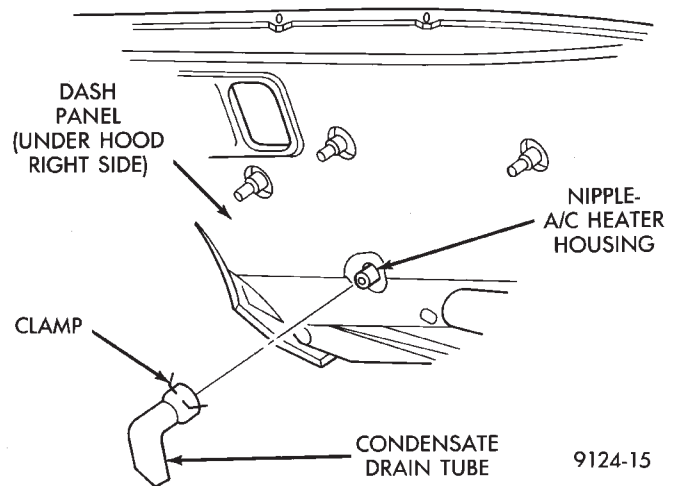

Fig. 11 Condensate Water Drain Tube—Typical
- (1) Raise vehicle.
- (2) Locate rubber Drain Tube on right side of dash panel (Fig. 11).